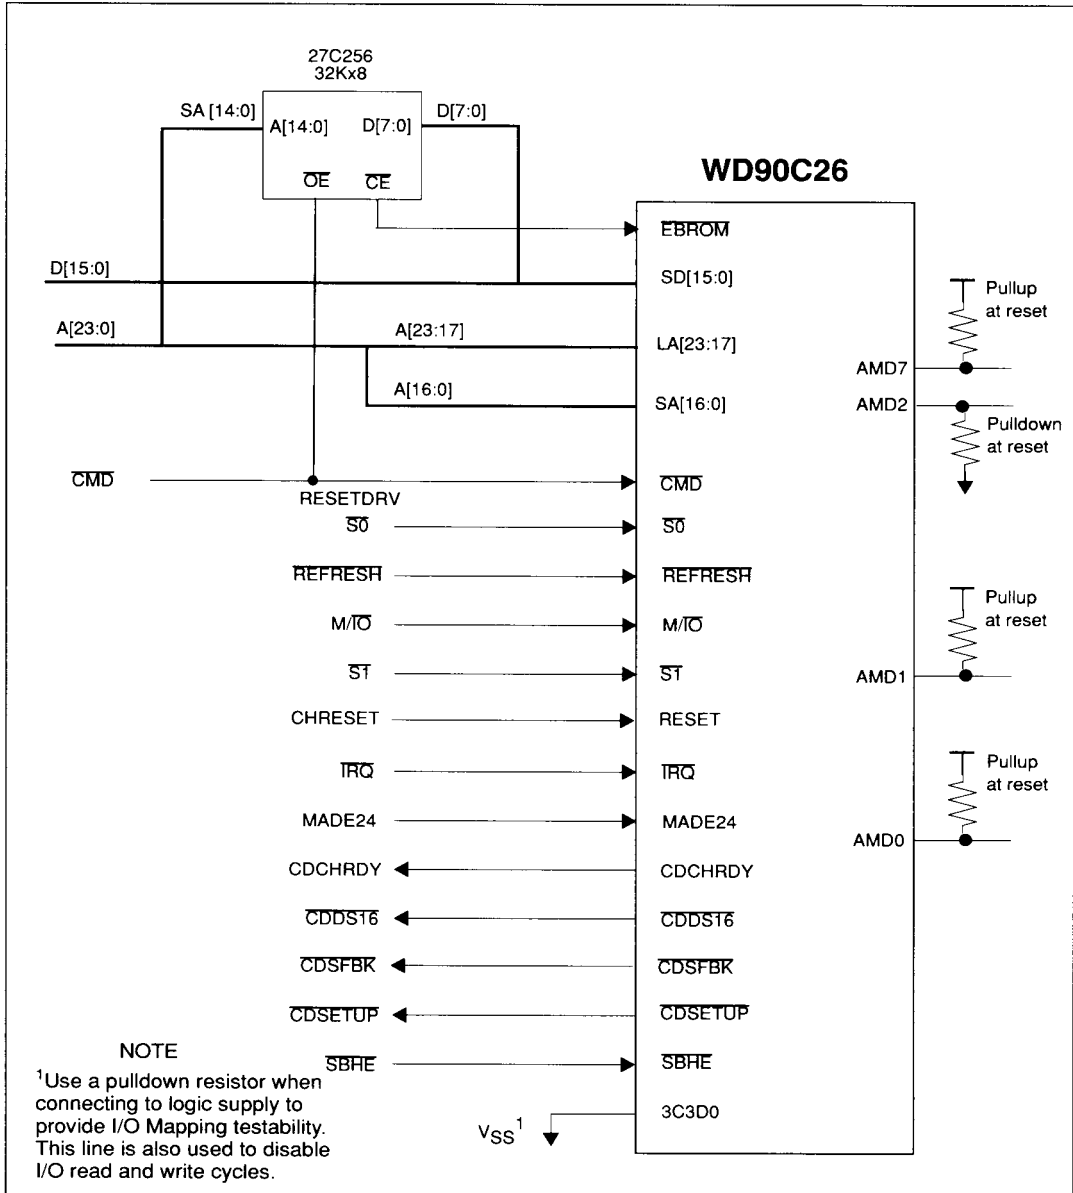

**FIGURE 6-6 16-BIT ISA BUS (AT) INTERFACE**
- 16-Bit ISA Bus (AT) Interface with 8-Bit BIOS, Figure 6-6.
Figure 6-6 shows a typical 16-bit ISA Bus (AT) interface.